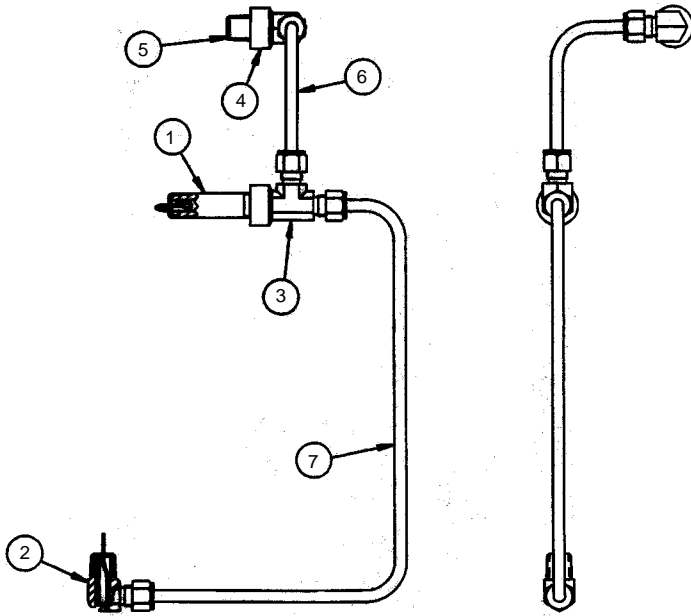

Figure 1 - Identification of Components - 2 Class 300 25-Valve Tubing
- The individual components provided in the tubing kit are shown in Figure 1. The transmission tubing is NOT to be assembled together as shown in Figure 1 prior to attachment to the valve.
All of the following instructions refer to Figure 2. The item numbers are as shown in Figure 1.